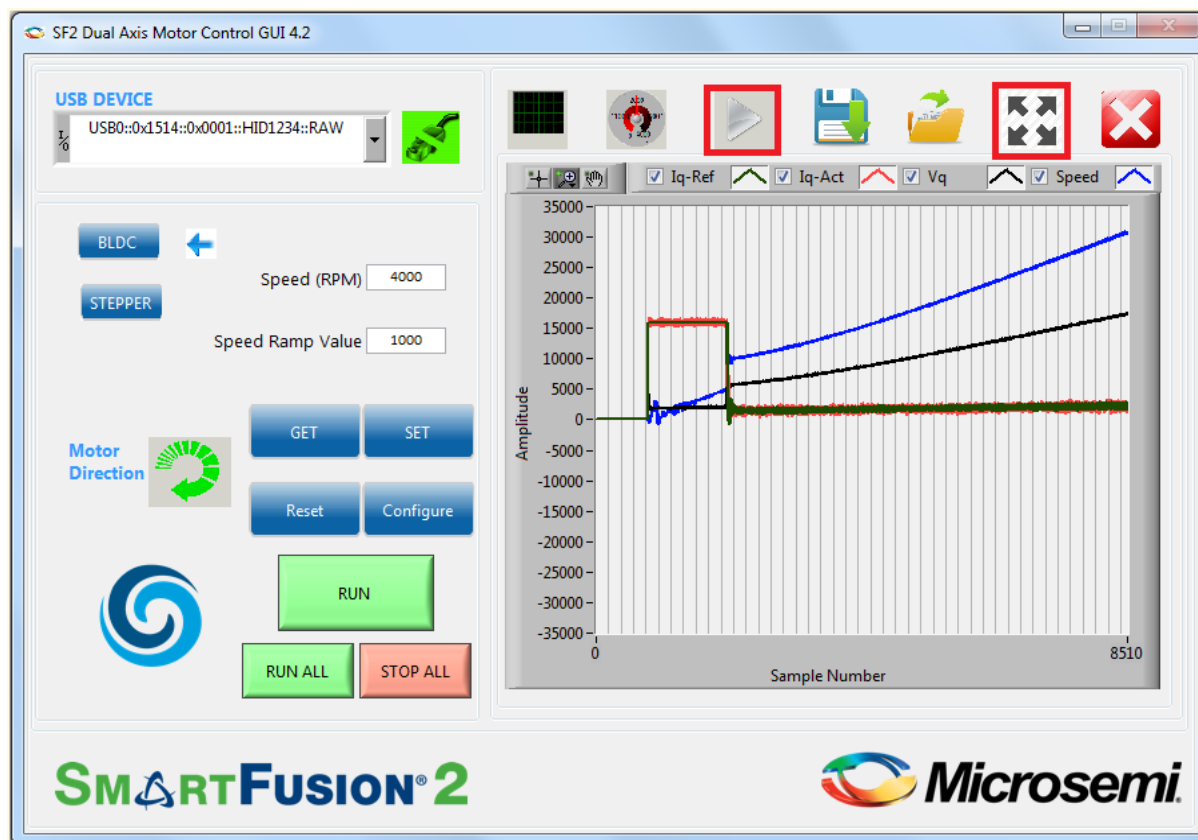

Figure 21 • SmartFusion2 Motor Control GUI - Start Plotting
5. The GUI automatically plots waveforms when motor starts running. The plotting can be paused by clicking the pause button highlighted in Figure 21.